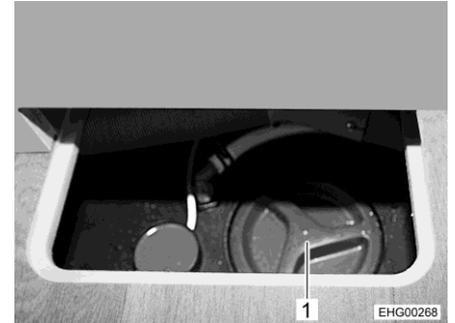

Fig. 155 Waste water tank
- Open the cleaning opening (Fig. 155,1) on the waste water tank.
- Close the cleaning opening (Fig. 155,1) on the waste water tank.